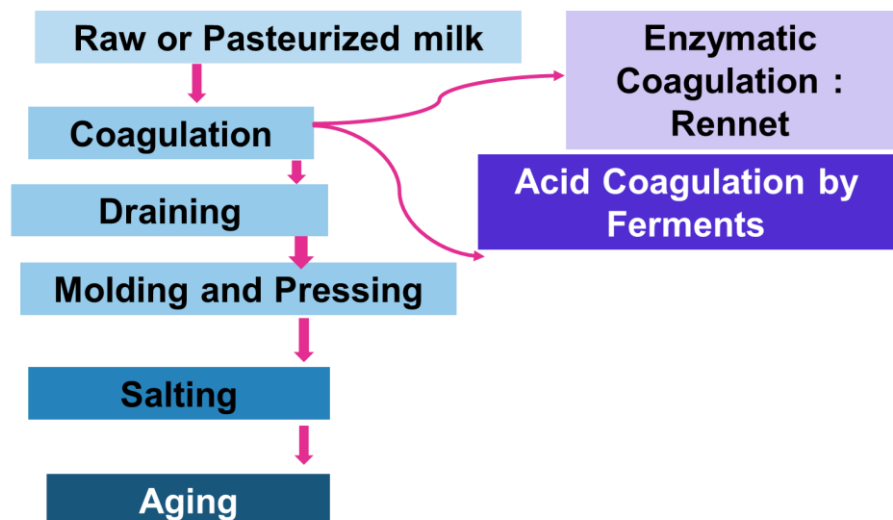

Figure 37 : Steps in cheese making.
- Each type of cheese, for successful aging, requires a specific atmospheric environment (temperature, humidity). This makes it impossible to age different cheeses in the same cheese cellar (figure 37).